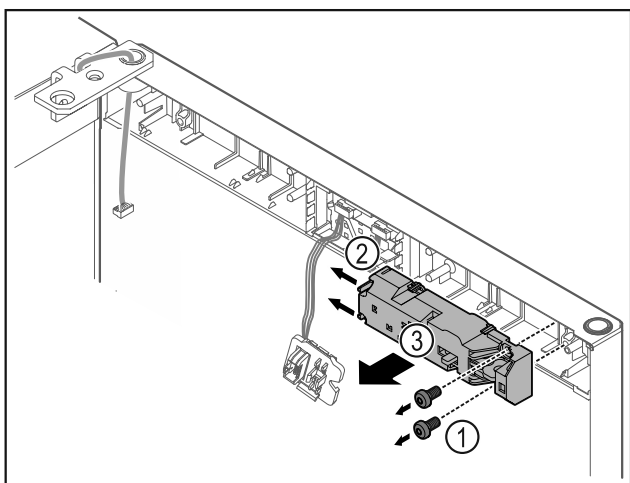

Fig. 21
- ▶ Remove the screws Fig. 21 (1).
- ▶ Press the latching lugs Fig. 21 (2) to the side and take off the remote lock Fig. 21 (3).